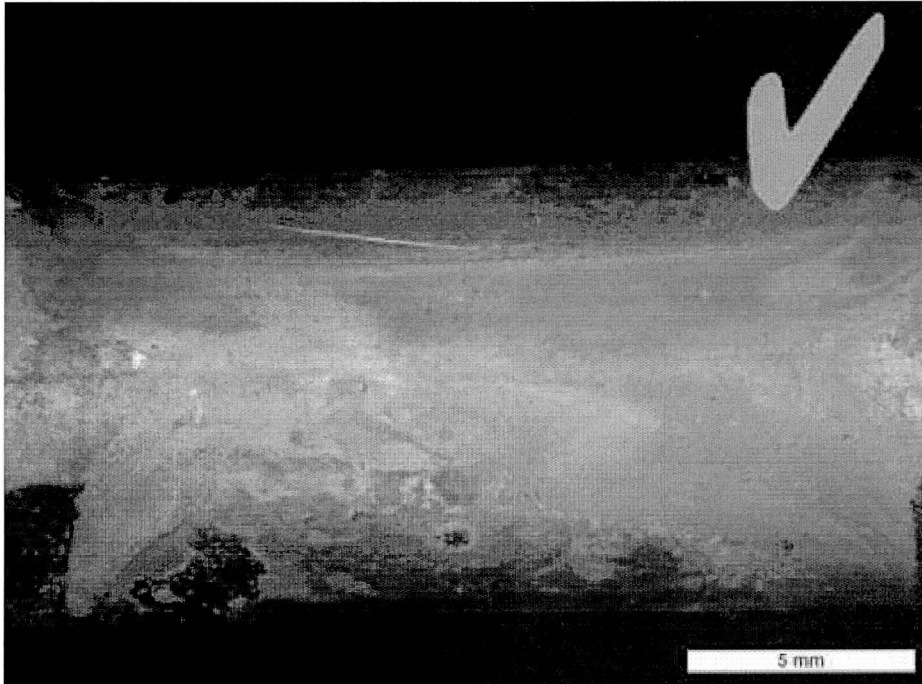
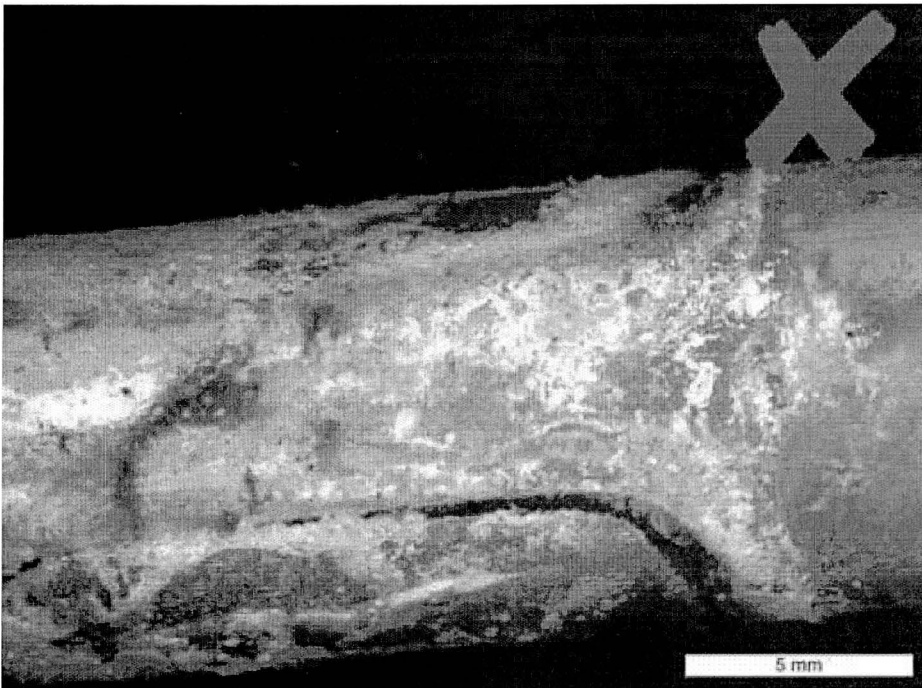

Figure 3
Figure 4
corrosion, use of a mirror will aid inspection. Discolouration and light oxidation on the surface of the pipe is not detrimental and does not necessitate pipe replacement (see Figure 3). If the pipe surface shows signs of extensive corrosion and pitting (see Figure 4) then that pipe should be replaced
9. On cars where the pipe is serviceable, figure 3, fit three replacement clips. For position A and B fit new clip part number RSGUV1.10-15W1 in position C fit new clip part number RSGUV1.18-15W1. If either pipe is found to have extensive corrosion then both pipes should be replaced before replacing the clips, in this case follow the *Air conditioning pipe replacement* procedure detailed below.
1. This procedure is only to be performed if either pipe has extensive surface corrosion at the clipping points (see Figure 4)